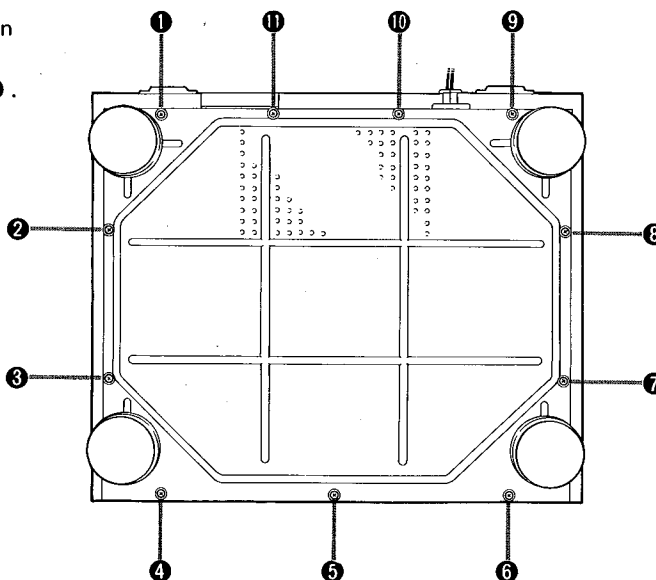

Fig. 1
1. Remove screws ① to ⑪ in Fig. 1 and then remove the cabinet bottom.